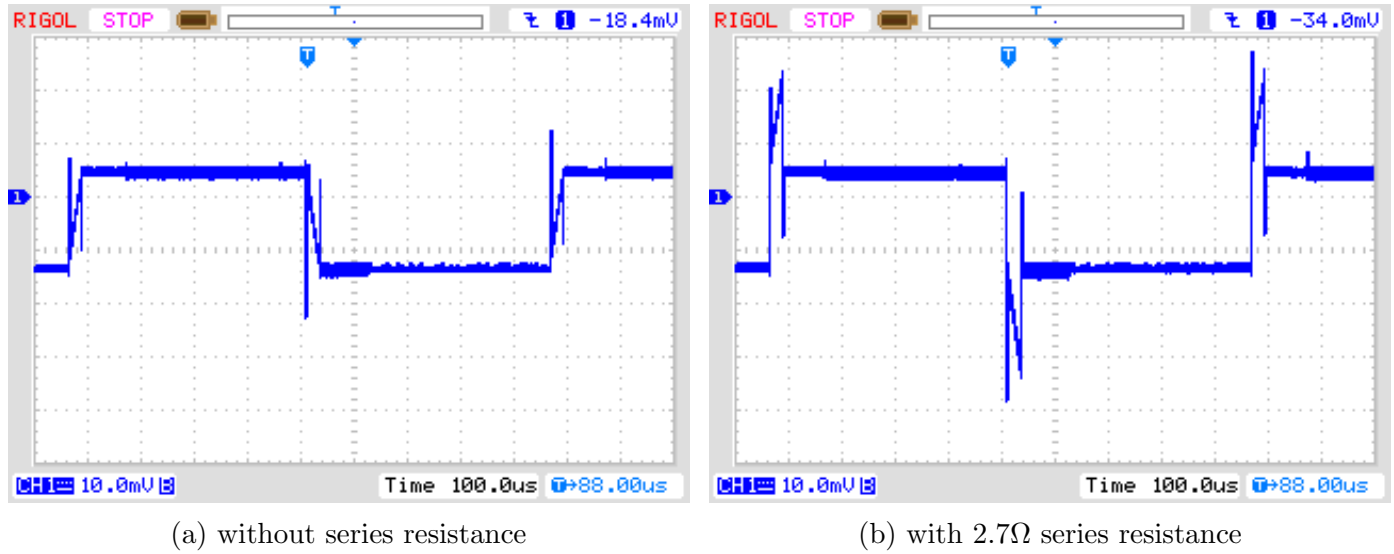

Figure 5.35. Voltage curve of a $10\mu F$ capacitor during new ESR measurement
Due to the shorter load puls not only the ESR of capacitors with lower capacity can be measured, but this way of measurement can also be used for the measurement of resistors with little resistance, if they don't have a detectable inductance. By doing that, a resolution of 0.01Ω for this resistors can be achieved. Also the zero resistance can be detected by the calibration part of the selftest for all three test pin combination. You should keep in mind, that stable plug sockets or clamping connectors are essential for stable results. The measurement periode is about $900\mu s$, which results to a frequency of about $1.1kHz$. Because the load pulse is very short, the measurement result is comparable to measurements with $10kHz$. A measurement example with a $10\mu F$ foil capacitor, once measured alone and once measures with a 2.7Ω series resistor is shown in figure 5.35. You can see the effect of the additional resistance by comparing both diagrams. You can see also, why the ADC measurement (SH) should point to the middle of the load pulse. With big capacity values the load current is nearly stable during the total pulse length, so you will get the middle voltage at the middle time of the load pulse. With lower capacity values you will get a significant difference, which can be compensated by the known capacity value.